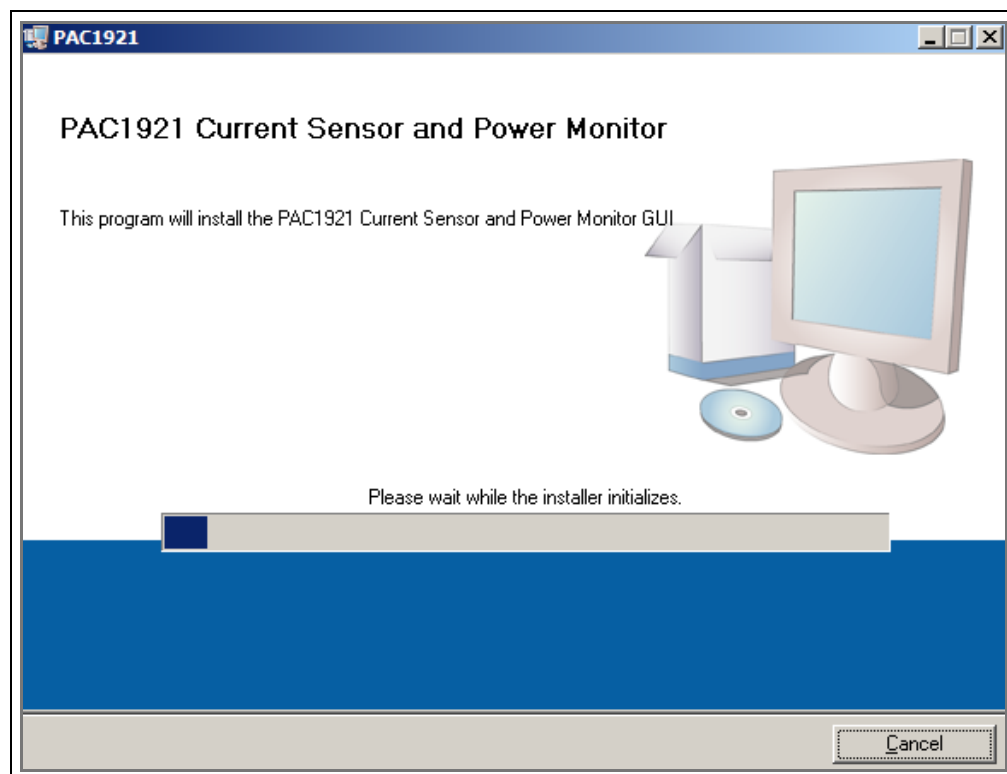

FIGURE 2-1: *Software Installation – Initialize Window.*
1. Download the software archive from the board's web page, unzip it and double-click the `Setup.exe` to start the installation. Figure 2-1 shows the initial installation screen, which displays briefly as the setup program loads.